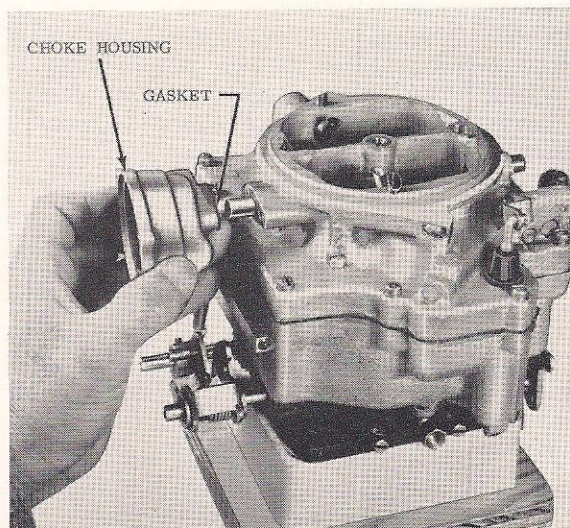

Figure 7-11
14. Remove two choke housing to air horn attaching screws. Then remove choke housing and gasket from air horn. (Figure 7-11.)